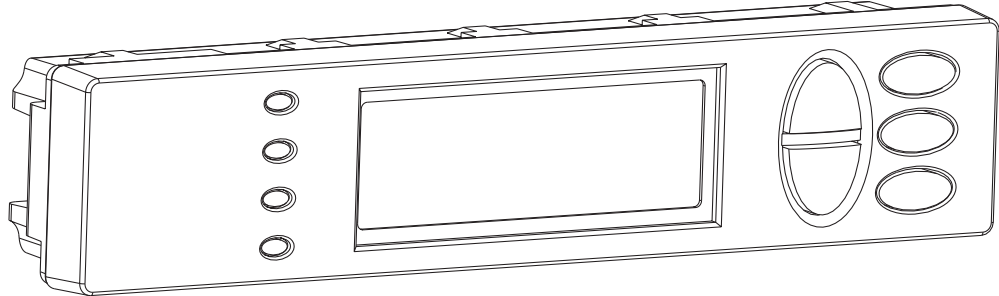

Figure 1: PowerView RM
- Figure 1: PowerView RM 1
PowerView RM is the primary user interface for the Symmetra RM. Shown in Figure 1, the PowerView RM comes installed in the top bezel of Symmetra RM but can be detached for mounting higher in the rack (additional mounting hardware required).